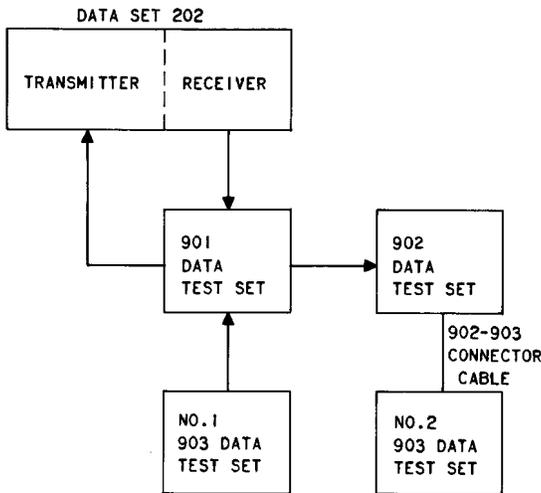

Fig. 3—Back-to-Back Test, Block Diagram
**3.10** Figure 3 shows test set arrangements for the back-to-back test.